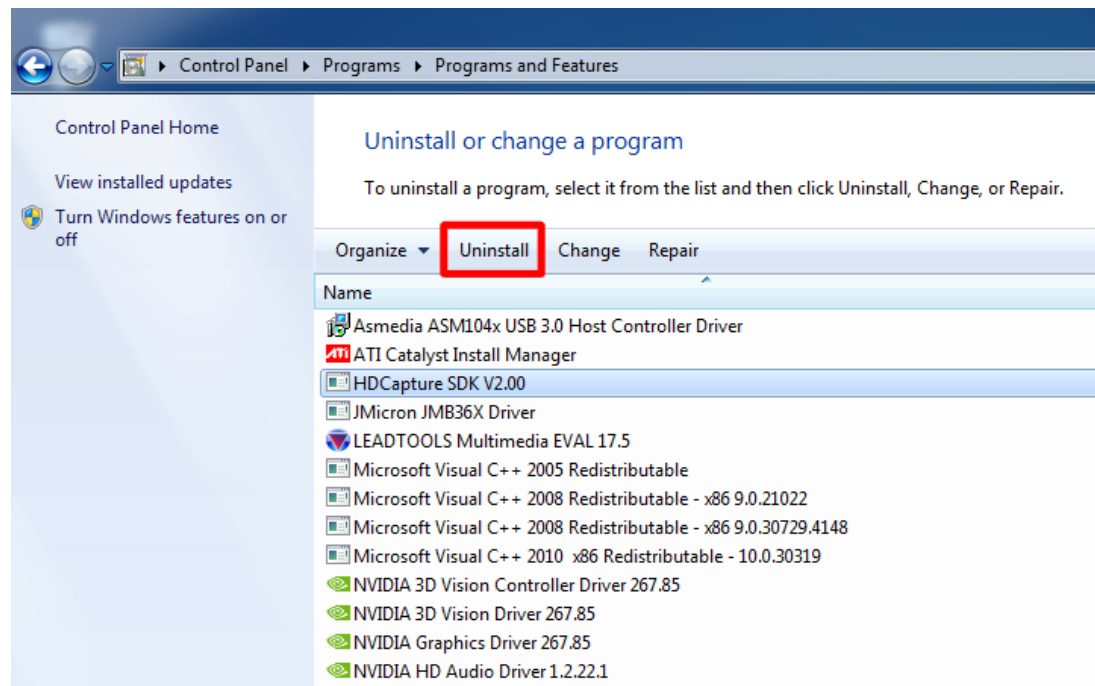

Figure 1-12: Uninstall HDCapture SDK
Step 2: Select HDCapture SDK and click the **Uninstall** button to uninstall the HDCapture SDK (**Figure 1-12**).